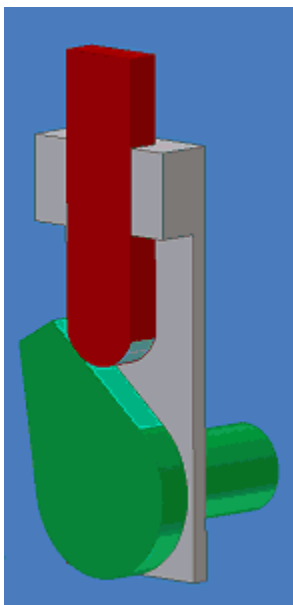

Figure 6: A Transition constraint applied to a sharp-cornered cam.
2. Apply a Transition constraint between the curved, lower face of the red follower and the flat, upper face of the green cam. Remember to select the follower first. The assembly should now look like the one shown in Figure 6.